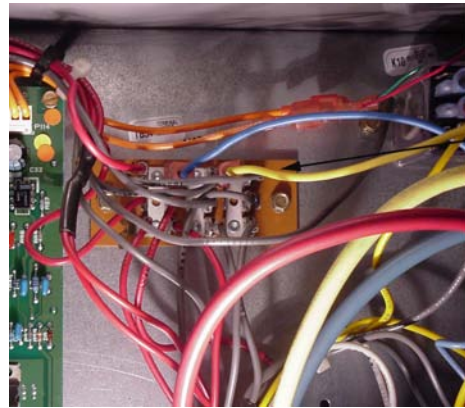
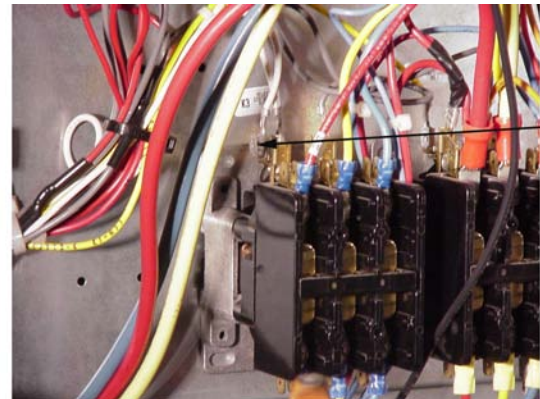

Figure 19
Figure 20
2. Disconnect red wire marked J3-3 from TB34 terminal 1. **See Figure 19.** Add extension wire (provided) to J3-3 wire. Connect J3-3 to K3 blower relay coil terminal A. **See Figure 20.**